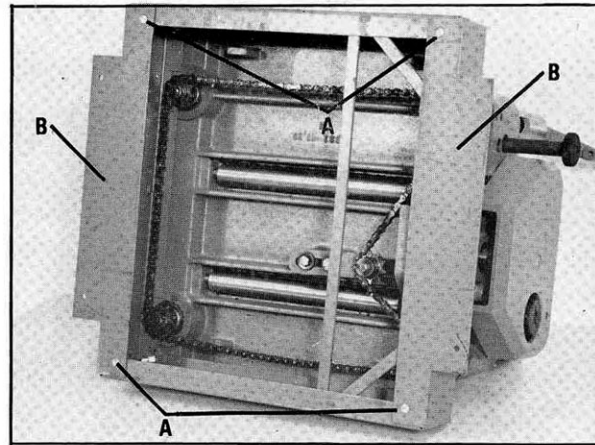

Fig. 1
Remove the wooden crate from around the machine. Remove four screws (A) Fig. 1, and shipping plates (B). If you purchased the three phase machine, your planer is shipped complete with motor, motor pulley and belts assembled to the machine. The switch is wired to the motor and it is necessary to mount the switch to the side of the planer, as explained later on in this manual.